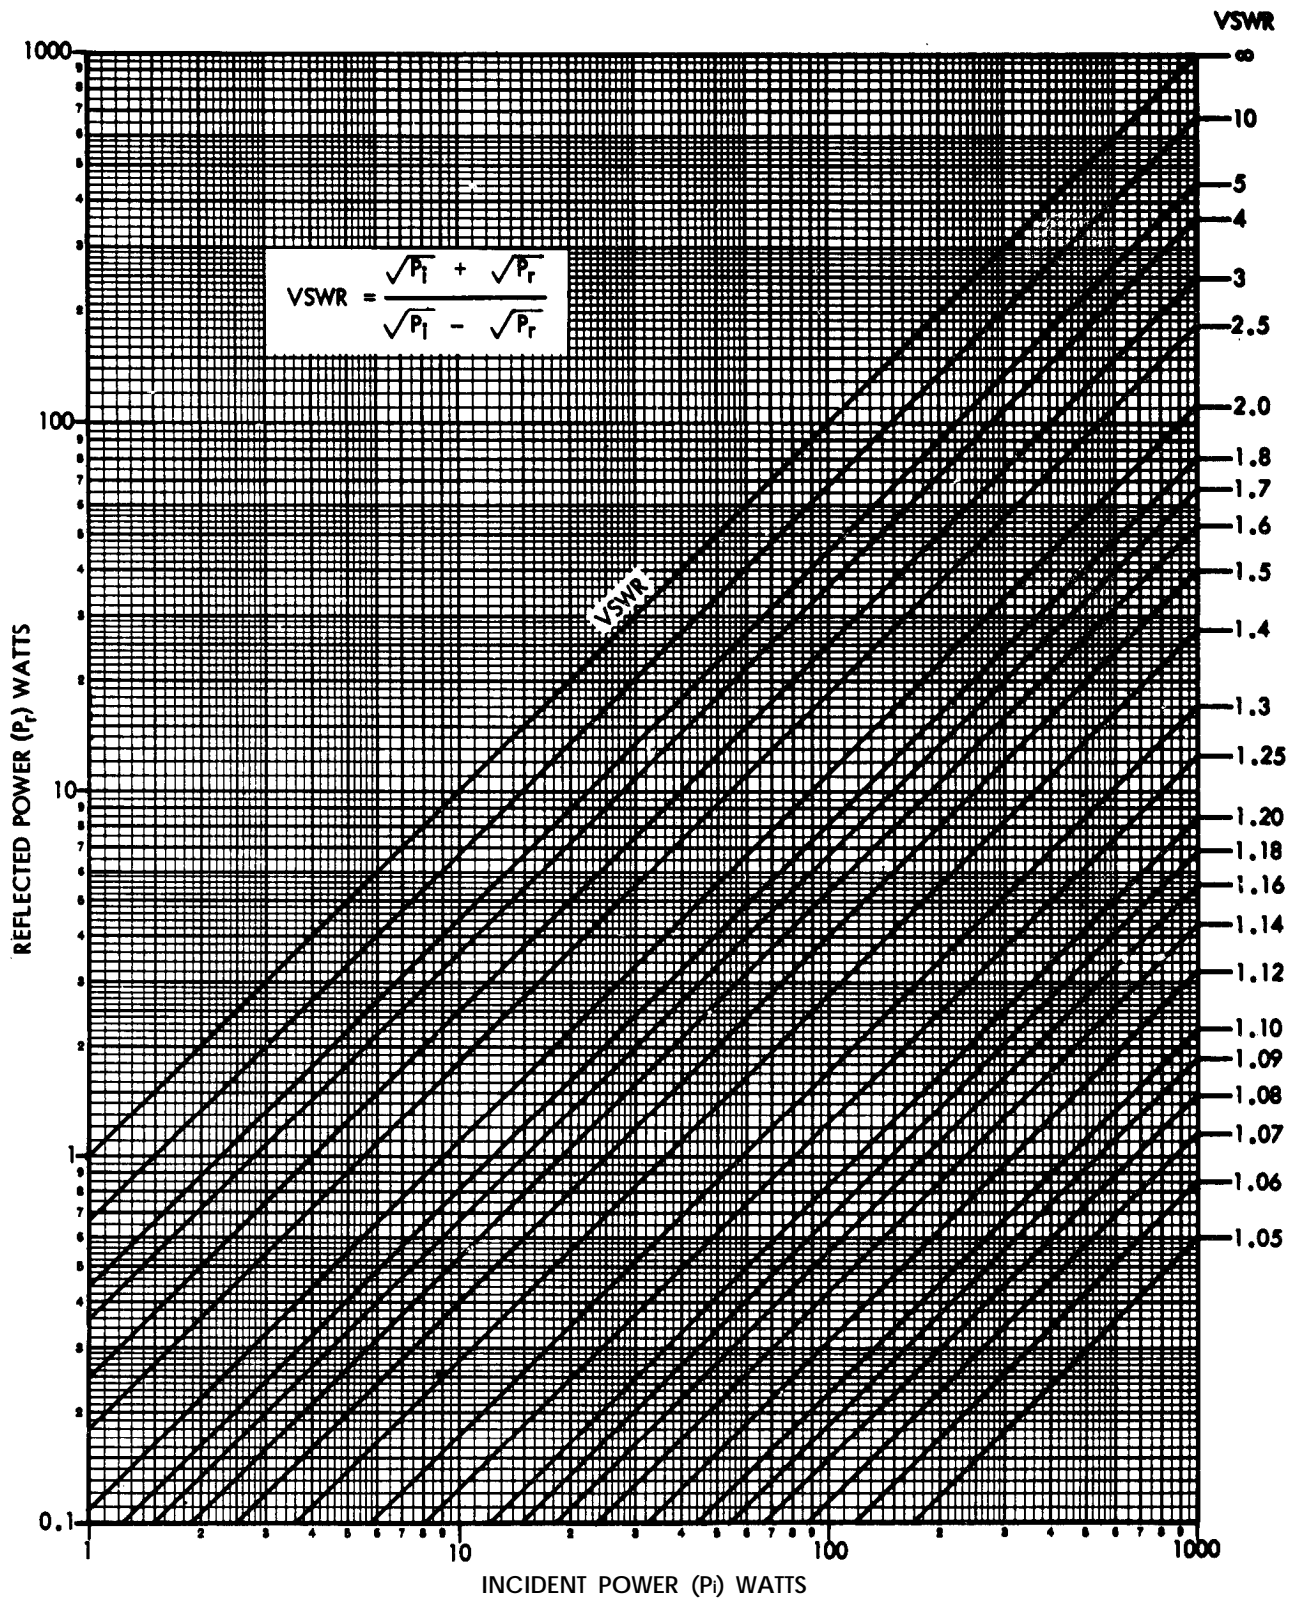

Figure 3. VSWR Chart
Enter the recorded readings on a copy of the VSWR chart, Figure 3, and read the VSWR at the intersection of these readings.
**EXAMPLE:** Incident power is 500 watts, reflected power is 20 watts. Enter these readings on the chart and the VSWR should read 1.5. Figure 3 is based on the equation: